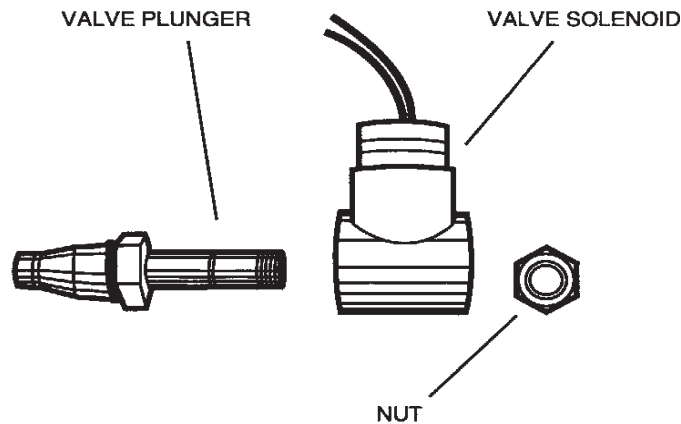

Fig. 10 Down valve
- Lower the platform and disassemble the down valve as shown in Fig. 10. Blow the valve plunger clean with compressed air. Reassemble the valve and reinstall it.